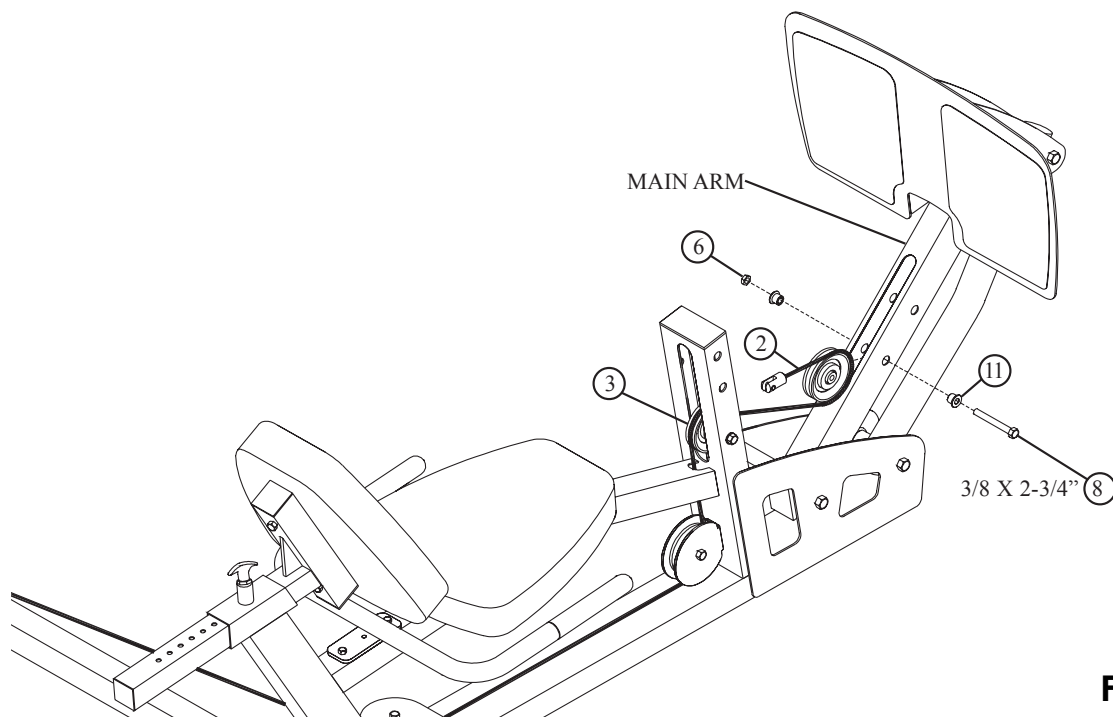

FIGURE 10
- Carefully route the LEG PRESS CABLE (2) around one 3-1/2" PULLEY (3) and **SECURELY** assemble the 3-1/2" PULLEY (3) to the MAIN ARM using one 3/8 X 2-3/4" BOLT (8), two STEP SPACERS 19/32" (11) and one 3/8" LOCK NUT (6) as shown in FIGURE 10. Make sure the CABLE is in the grooves of all the pulleys.